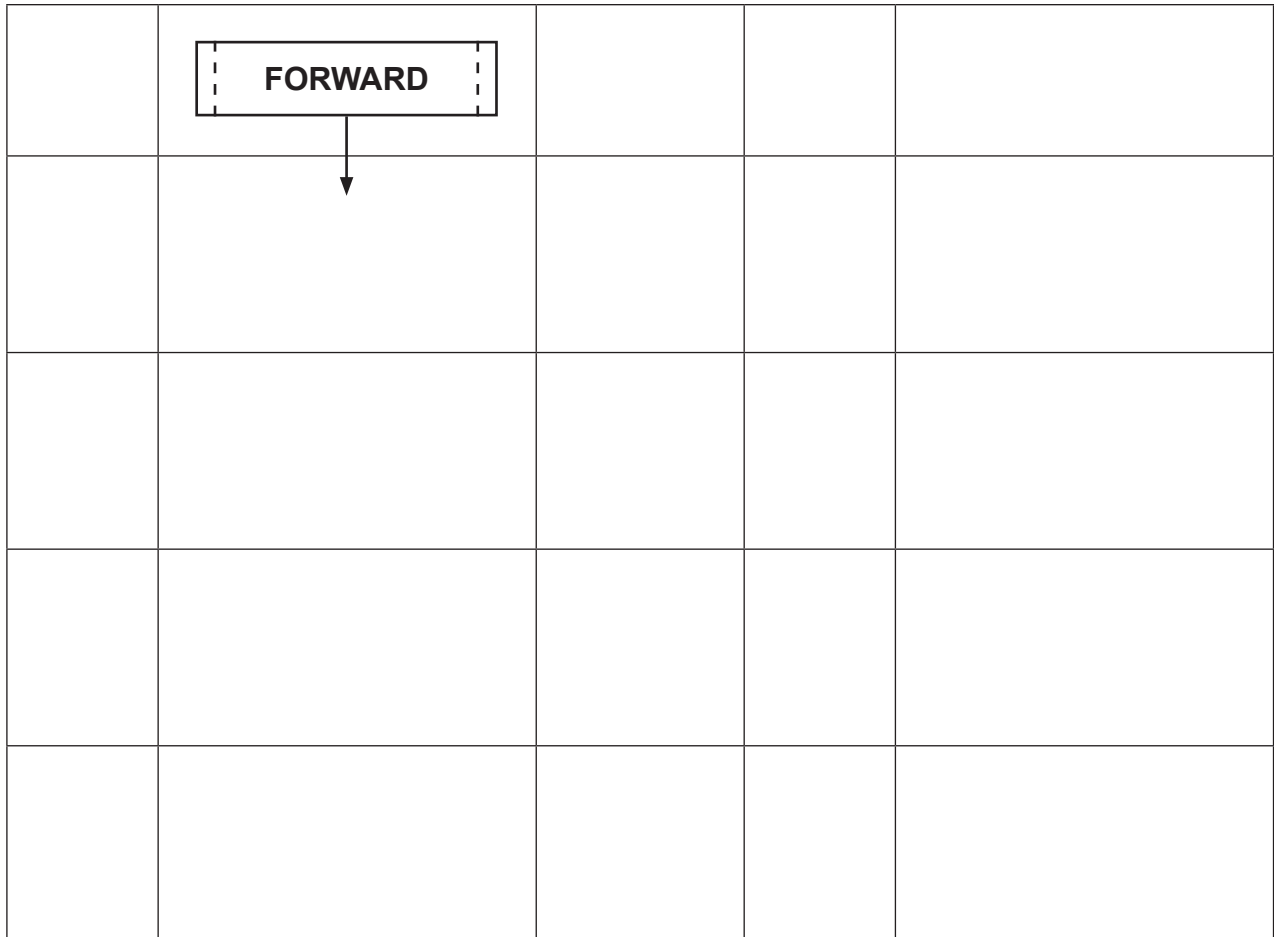

Fig. 10
- (i) Complete the flow chart in **Fig. 10** to represent the **FORWARD** macro as follows: